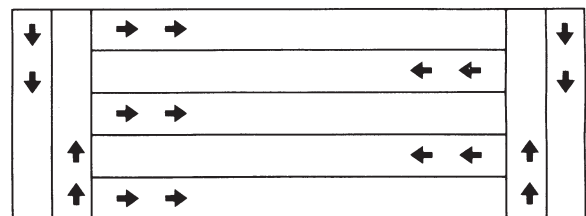

FIGURE 25
4. For easiest application, first apply material across both ends of the area. Two or three passes on each end are sufficient. Then apply material back and forth as shown. Use the end areas for turning around, shutting off the spreader as you enter the end areas and turning the spreader on again as your leave the end areas for your next pass. See figure 25.